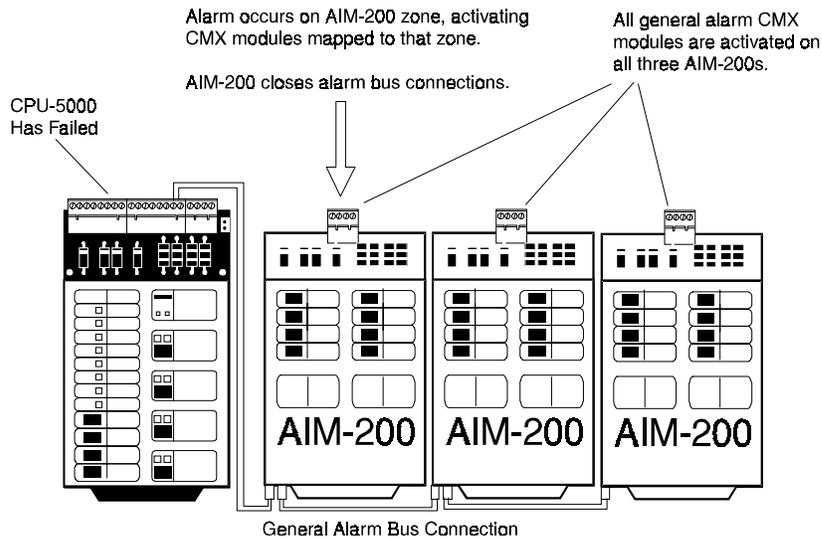

Figure A-1: Alarm Bus Activity
3. The CPU alarm relay must be programmed as silenceable, permitting the silencing of general alarm modules with software type \square (see Figure A-1).